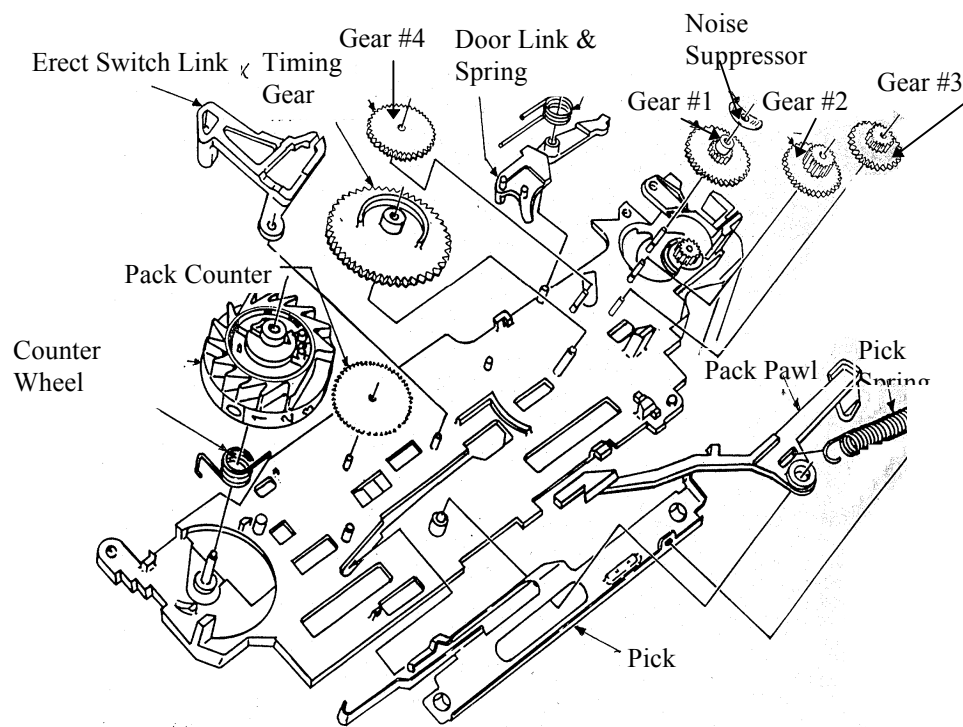

Figure 4-14a Gear Train Disassembly
- b. Remove the Noise Suppressor (washer) from Gear #1. See Figure 4-14a.